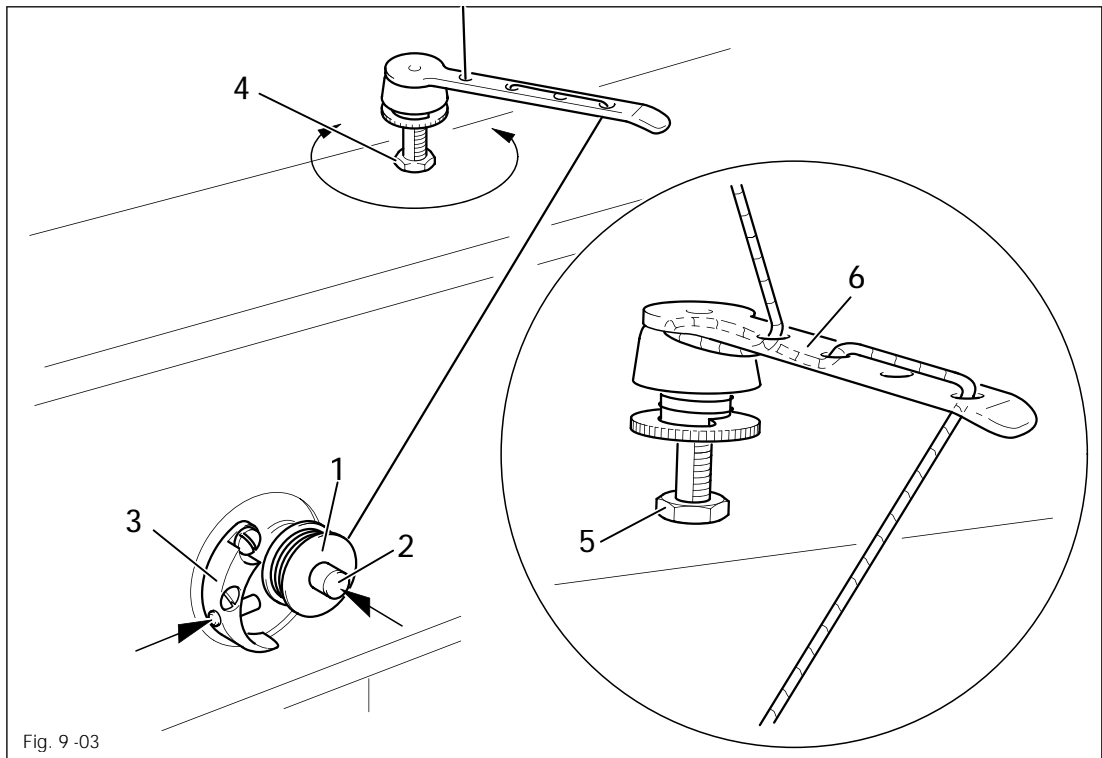

Fig. 9-03
- Thread up as shown in Fig. 9-03 and wind the thread a few times clockwise around bobbin 1. Engage the bobbin winder by pressing spindle 2 and lever 3 simultaneously